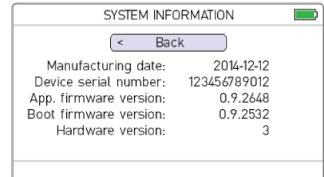

Figure 48. System Information
2. Press . SYSTEM INFORMATION is shown (See figure 48)